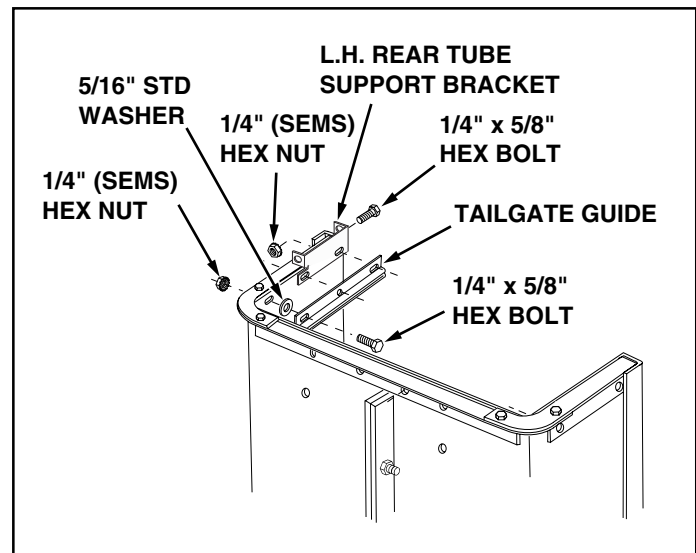

FIGURE 3
5. Assemble the L.H. Rear Tube Support Bracket to the top flange of the cart using a 1/4" x 5/8" hex bolt and 1/4" SEMS hex nut. **Do not tighten yet.** See figure 3.
6. Fasten a Tailgate Guide to the Tube Support Bracket and the side of the cart using three 1/4" x 5/8" hex bolts, a 5/16" washer and three 1/4" SEMS hex nuts. Place the washer on the bottom hole between the Tailgate Guide and the side of the cart. **Do not tighten yet.** See figure 3.